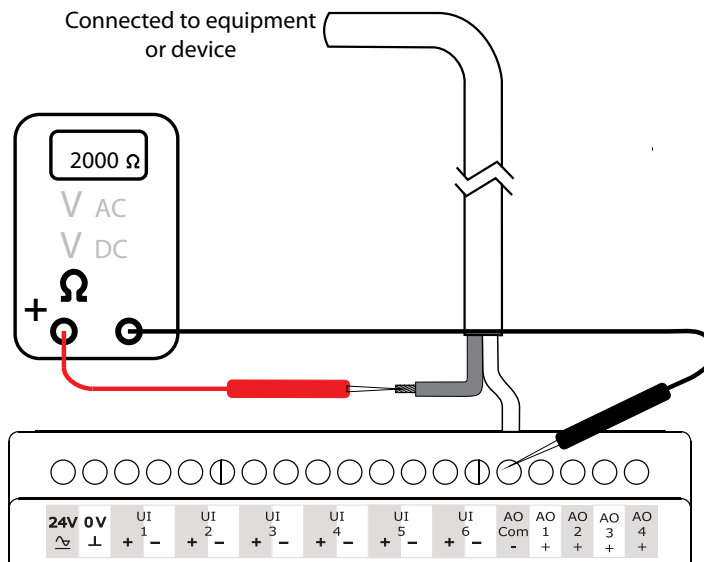

Figure 5-5: Checking Analogue Output Resistance
6. Change the DMM to measure resistance (Ω). The DMM should measure a minimum resistance of 2,000 Ω , as illustrated in Figure 5-5 on the next page. Depending on the DMM, a very high reading in Mega Ω will indicate an open circuit condition that should be corrected.